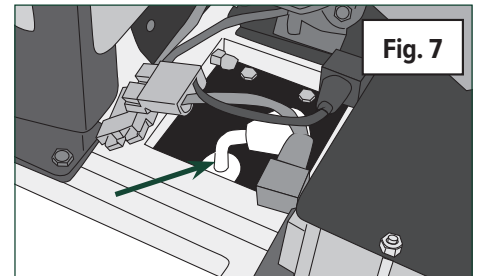

Fig. 7
3. **(Fig. 7)** Install the FRONT engine clamp knob and rubber washer then tighten.
2. **(Fig. 7)** Connect the collar to the blower intake opening and secure it with the two latches.